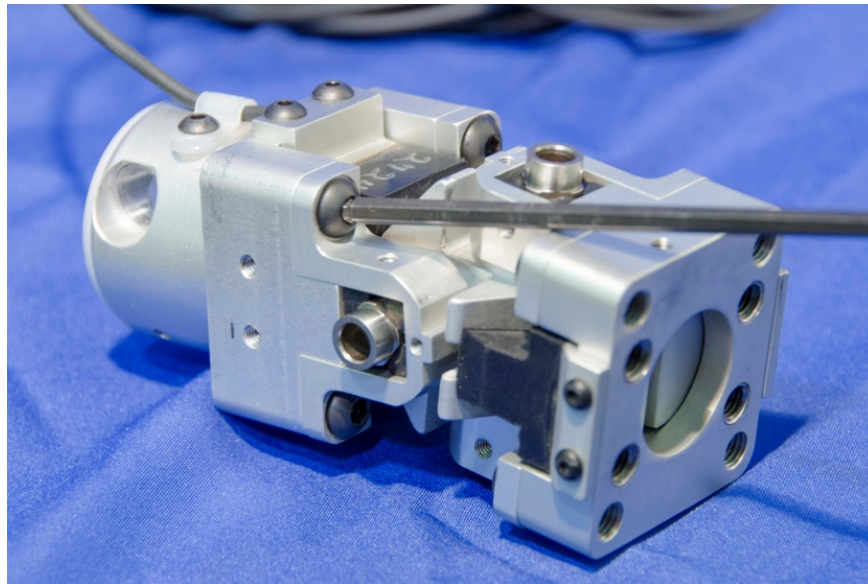

Figure 12-42. Secure bottom base unit assembly to top base
- 12.2.2.25 Secure the bottom base unit assembly to the top base with four M6 x 1 x12 BHCS (Figure 12-42).